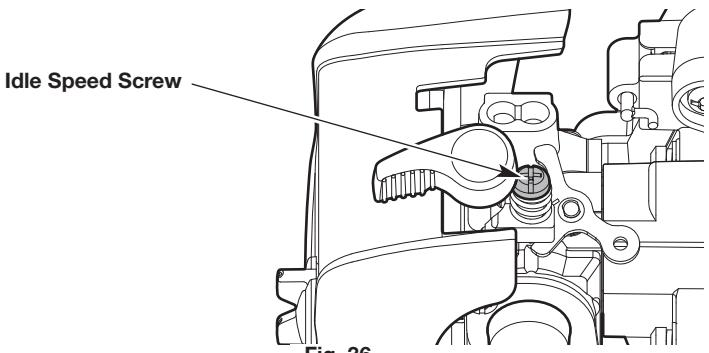

Fig. 36
- If the engine stops, increase the idle speed. Use a small Phillips screwdriver to turn the idle speed screw clockwise, 1/8 of a turn at a time, until the engine idles smoothly (Fig. 36).
- If the cutting head spins when the engine idles, reduce the idle speed. Turn the idle speed screw counterclockwise, 1/8 of a turn at a time, until the cutting head stops moving (Fig. 36).